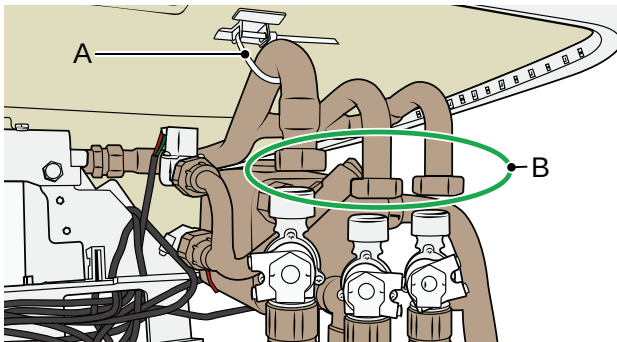

Figure 39
22. Fasten the pipe connections loosely with a cable tie (A).
Loosen the upper nuts, three pipes (B) on the mixer. Tighten the cable tie (A). See Figure 39.